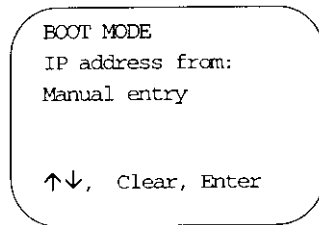

Figure 4-9. Boot Mode Screen
- h. Select **Boot Mode** from the main configuration menu. The *Boot Mode* screen (Figure 4-9) is displayed.